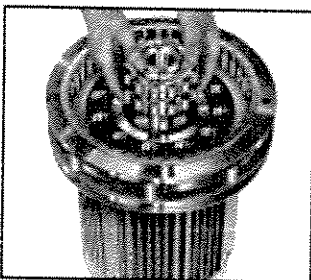

Fig. 20
6. The top cycloid disc (2-04) on the slow speed side can be easily lifted out with both hands (Fig. 20).
7. **Insert top disc in such a way that the mark is 180° opposed to the marking of the bottom disc (Fig. 20).**